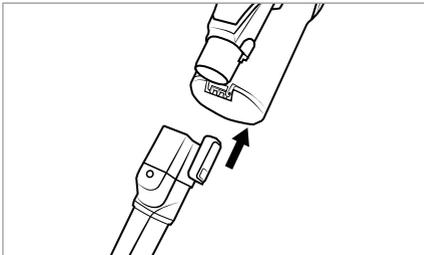

Fig. 14
- ◆ Push the accessory onto the suction pipe 23 or onto the suction opening of the appliance until it clicks into place (see Fig. 14). Make sure that the locking mechanism is in the correct position.